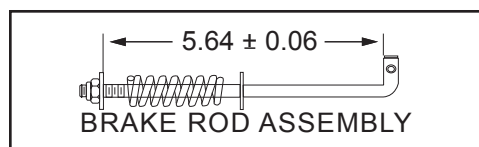

Figure 7. Brake Pull Rod Assembly Adjustment
4. Install at upper bolt spacer (130), washer (139), lock washer (126), and nut (127).
5. Install at lower bolt lock washer (126), and nut (127) to secure the brake yoke assembly.
6. Install brake anti-drag compression spring (151), and two brake pins (125).
7. Install brake arm (124) onto brake yoke assembly.
8. Install washer (77), and castle nut (128).
9. Insert a (0.015") (.381 mm) feeler gage between brake disc (85) and top brake puck (120). Adjust the brake by turning castle nut (128) until it is snug but not tight against the feeler gage. (The brake gap must be adjusted to a (0.015") (.381 mm) clearance.
10. Install cotter pin (129) to secure castle nut (128).
11. Install brake arm bias spring (141) to brake arm (124) and top brake arm bolt.
12. Install brake pull rod (152) into brake arm (124) and actuating arm (35).
13. Secure brake rod (152) to actuating arm (35) by installing washer (77) and cotter pin (129).
14. Secure brake pull rod (152) to brake arm by installing washer (77), brake spring (134), washer (77), and lock nut (95). Set to the dimension shown in Figure 7.